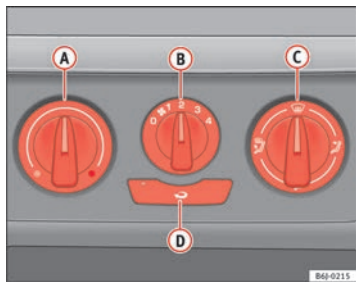

Fig. 97 Heating controls on the dash panel
- Turn the temperature selector **(A)** ⇒ fig. 97 anti-clockwise.
- Turn the temperature selector **(A)** ⇒ fig. 97 clockwise to select the desired temperature.
- Turn the temperature selector **(A)** ⇒ fig. 97 clockwise to reach the maximum temperature.
- Turn the temperature selector **(A)** ⇒ fig. 97 to the heating area.
- Close outlets ③
- Open and turn outlets ④ towards side windows